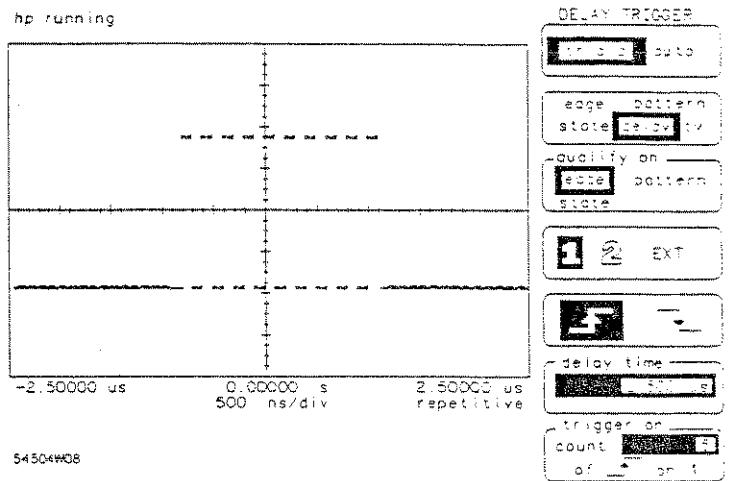

Figure 6-15. Ten Burst Pulse Triggered on Pulse 5
- Return to the trigger menu and set trigger on count to 5. This tells the oscilloscope to trigger on the 5th rising edge of the next burst (see Figure 6-15).